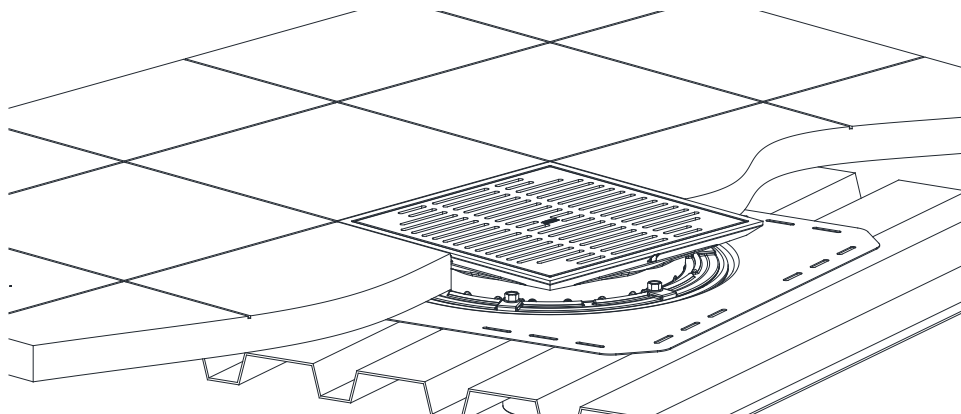

Fig. 5
Step 12 - Complete construction of the promenade deck surface as required so that finished roof surface is flush with top of frame. (Fig. 5)